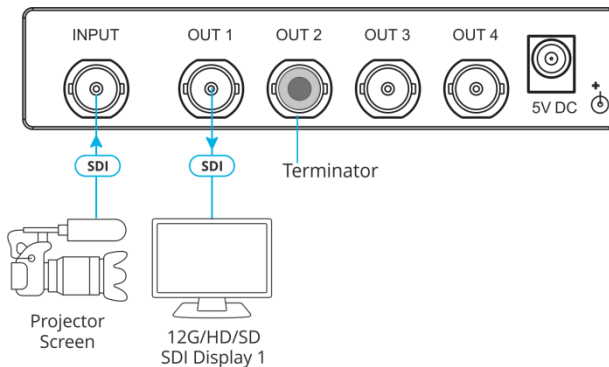

Figure 2: Connecting to the VM-4UX
| Figure 2: | Connecting to the VM-4UX | 6 |
3. Connect the 5V DC power adapter to the power socket and connect the adapter to the mains electricity (not shown in Figure 2).